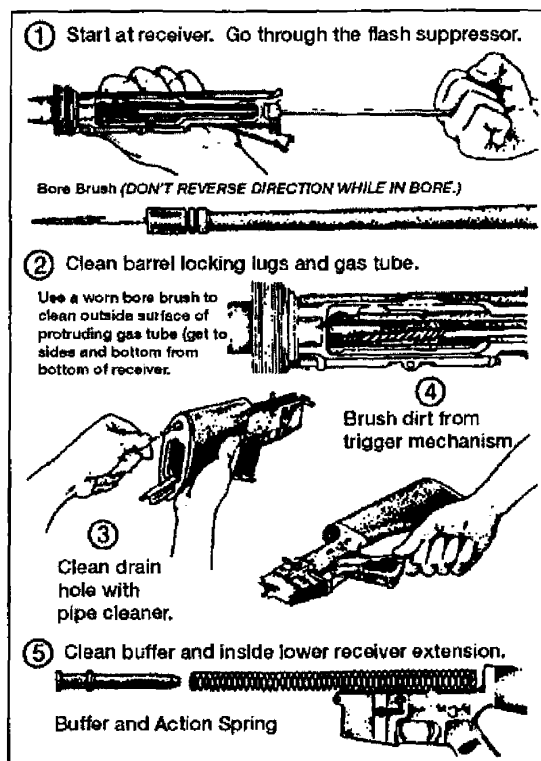

Figure 071-311-2025-21. Cleaning the receivers
b. Clean the bolt carrier group, wiping the following parts with swabs and other parts from the small-arms maintenance equipment case (figure 071-311-2025-22).